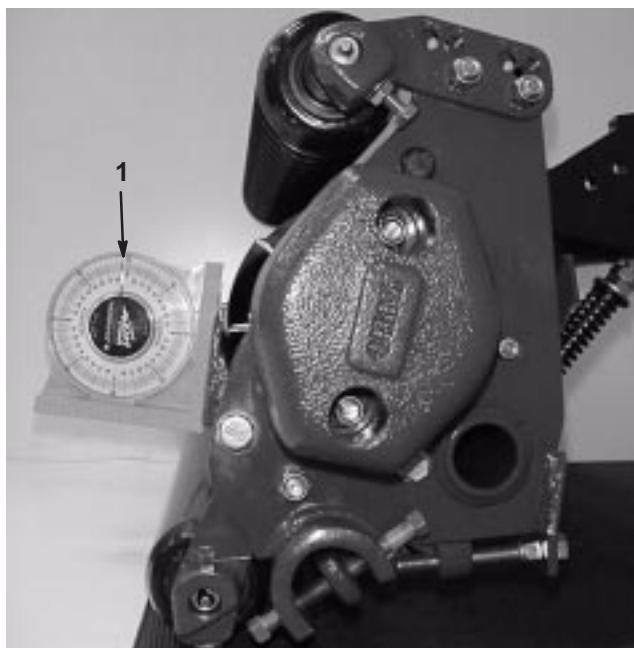

Figure 9
1. Place an angle indicator, Toro Part No. 99-3503, on the bedknife and record the bedknife angle (Fig. 9).